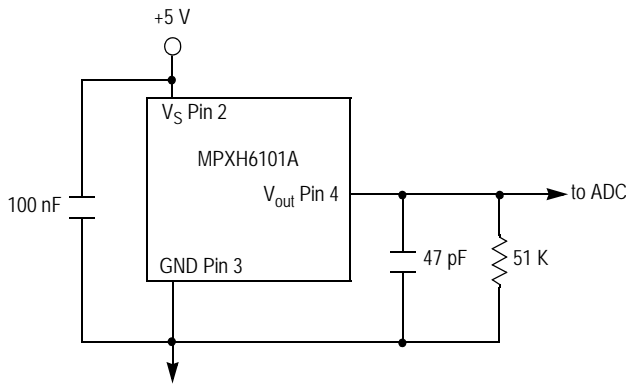

Figure 3. Recommended Power Supply Decoupling and Output Filtering
**Table 1. Operating Characteristics** ( $V_S = 5.0$  Vdc,  $T_A = 25^\circ\text{C}$  unless otherwise noted,  $P_1 > P_2$ . Decoupling circuit shown in Figure 3 required to meet electrical specifications.)
Figure 3 shows the recommended decoupling circuit for interfacing the output of the integrated sensor to the A/D input of a microprocessor or microcontroller. Proper decoupling of the power supply is recommended.